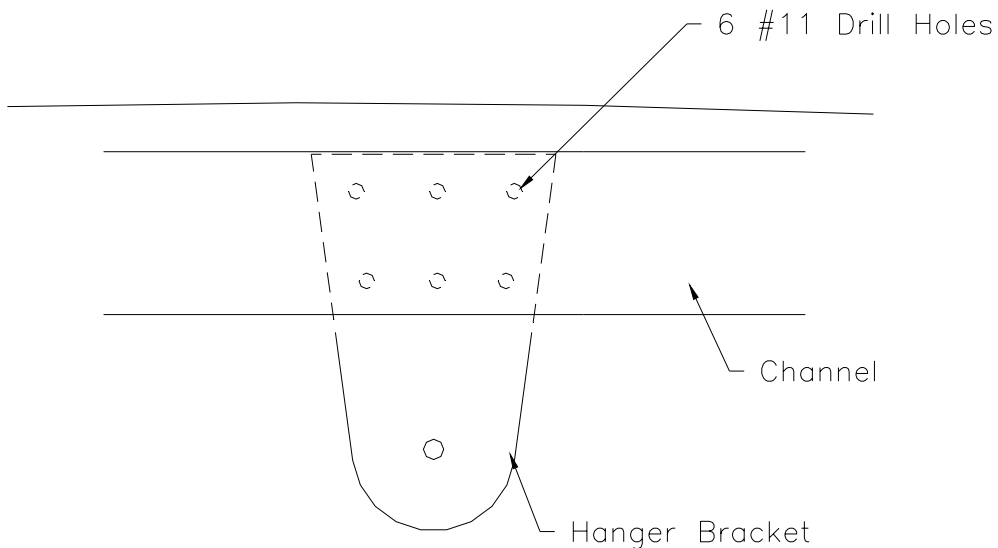

Figure 20.6.10
22) Sandwich the hanger between the two channels. Figure 20.6.10.